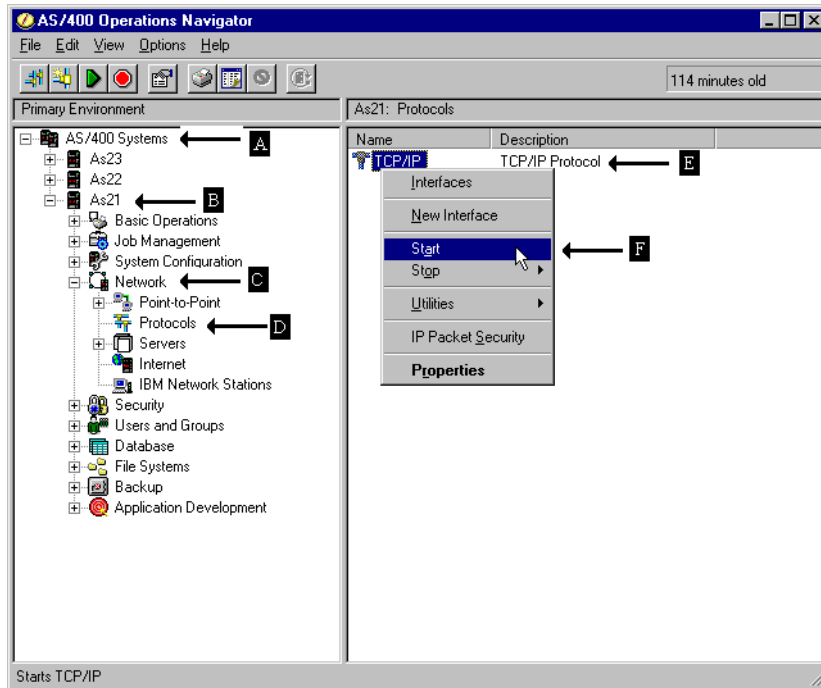

Figure 474. Start TCP/IP
- a. Double-click the AS/400 system icon (A) in the Operations Navigator tree to give you a list of the AS/400 systems that you are configuring.
- b. Double-click the AS/400 system that you want to start TCP/IP processing (B).
- c. Double-click **Network** (C).
- d. Double-click **Protocol** (D).
- e. Right-click **TCP/IP** to open the context menu (E).
2. Select **Start** (F) to initialize and activate TCP/IP processing, start TCP/IP interfaces, and start TCP/IP server jobs. Figure 474 on page 812 shows the context menu to start TCP/IP and the Start TCP/IP dialog.